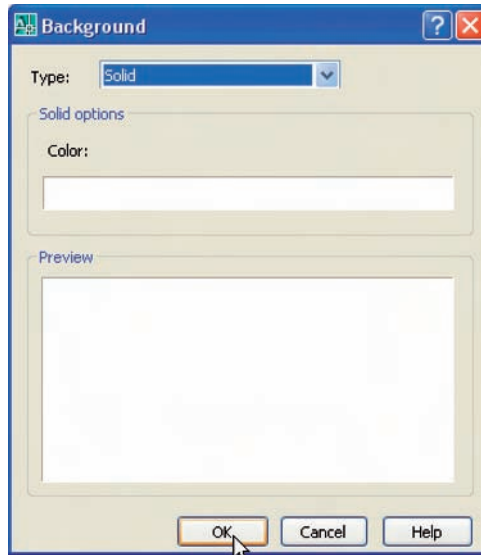

Fig. 16.12 The **Background** dialog
5. In the **Select Color** dialog *drag* the **Red**, **Green** and **Blue** sliders as far as possible to the right to change the colour to white (255,255,255). Then *click* the dialog’s **OK** button. The **Background** dialog reappears showing white in the **Color** field (Fig. 16.12). *Click* the dialog’s **OK** button.